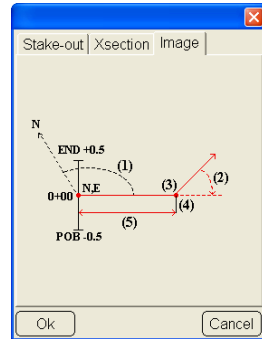

Figure 7-26. Cross-section Tab and Corresponding Image Tab
3. On the *Xsection* tab, enter the following coordinates for the cross section slope, then press **Ok** (Figure 7-26 on page 7-21).
- Centerline (CL) point – the coordinates of the point at the start of the centerline of the cross section.